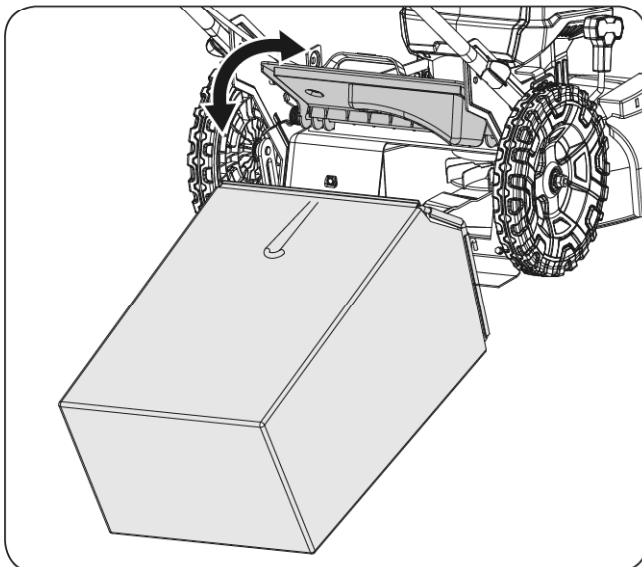

Figure 4
2. Slip the hooks in the grass catcher onto the rotating shaft of the rear discharge door. Let go of rear discharge door so that it rests on the grass catcher. (See **Figure 4**)